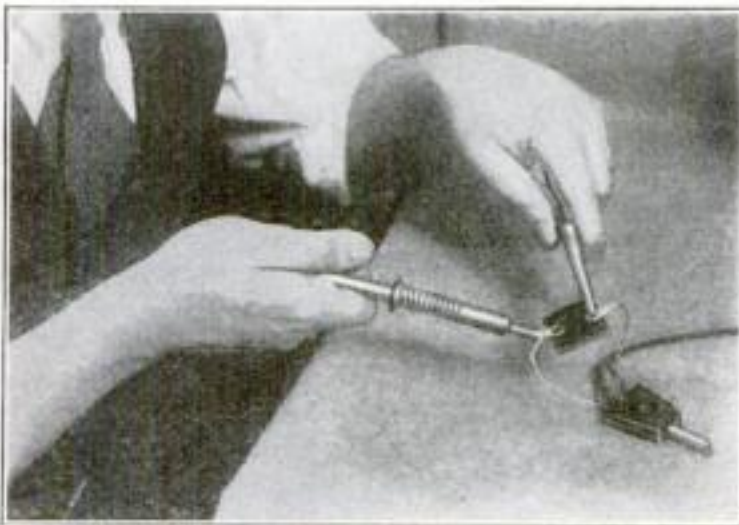
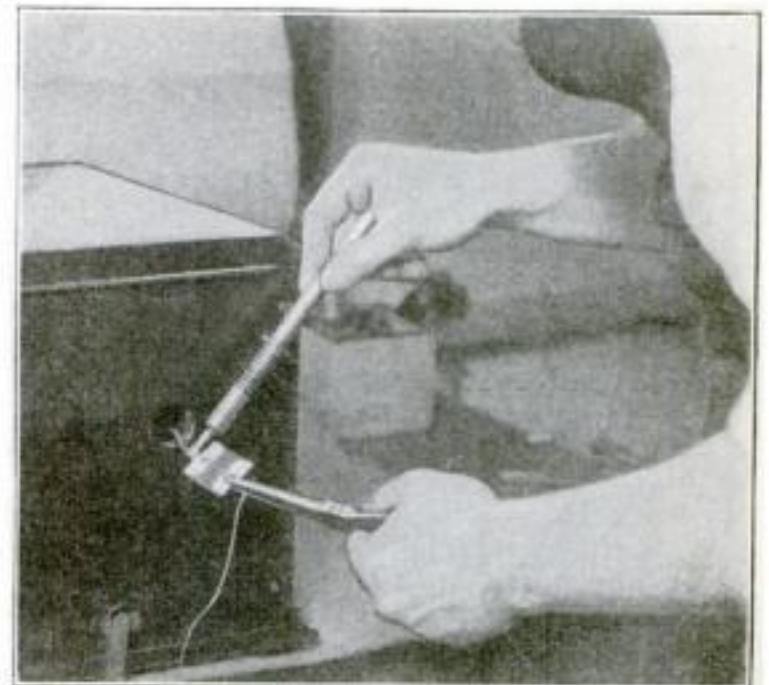

Fig. 6. Adding a fixed condenser across the loudspeaker sometimes improves tone quality
Fig. 8. The selectivity of a long antenna can be increased by connecting a condenser in series
**S**OMETIMES a worth while improvement in tone quality can be obtained by connecting a fixed condenser across the loudspeaker terminals as shown in Fig. 6. Capacity at this point in the radio circuit tends to reduce the strength of the audible tones at the upper end of the scale. In other words, a condenser across the loudspeaker terminals reduces hissing noises to a marked extent, shrill tinny musical notes are subdued, and the lower tones are not affected to any noticeable degree. If you prefer the deep-throated effect, you can get it by a condenser arranged in this way.
**A**NOTHER use for small fixed condensers is to increase the selectivity if you find difficulty in separating stations on adjacent wave lengths. The simplest way to connect a condenser at this point is shown in Fig. 8, and this illustration as well as the one in Fig. 6 shows the correct way to hold a small fixed condenser while soldering a wire to one of the lugs. The condenser always should be grasped by the pliers on the metal part opposite the side where the lug is being soldered, as otherwise the metal of the pliers absorbs the heat from the metal of the condenser and prevents it from getting hot enough to take the solder.